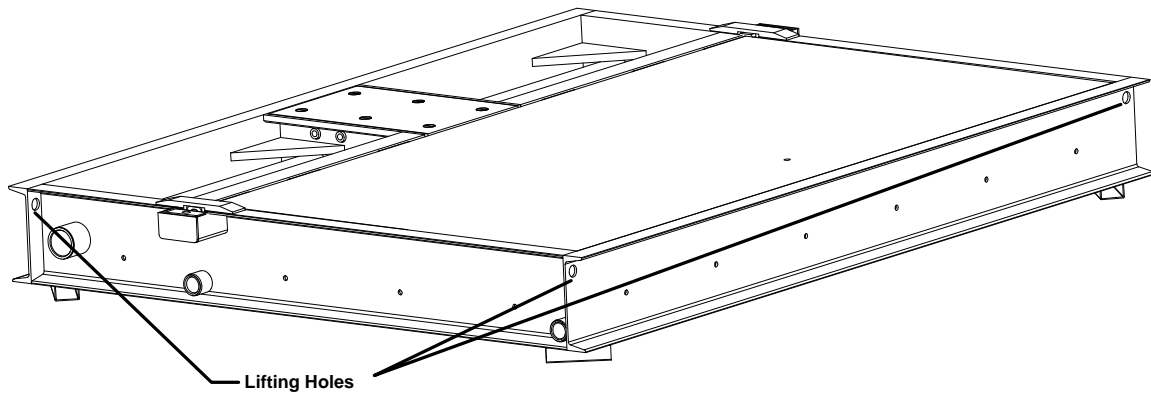

Figure 4 Barrier Lifting Holes
1. Position barrier using cinder blocks or similar product to ensure all four corners of the barrier are co-planer within $1/8''$. Shim if necessary. It is critical to the operational performance of the barrier that the base support frame is not twisted. Four lifting holes are supplied near the corners of the barrier for lifting and positioning use (see figure 4).